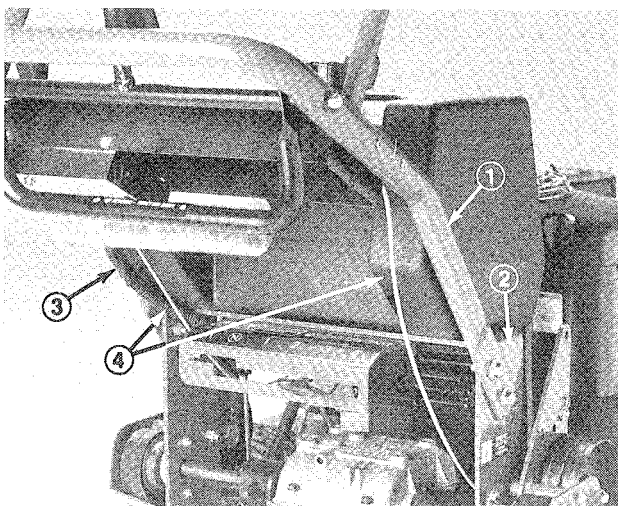

Figure 4
1. Align upper handle mounting holes with desired mounting holes in frame (upper or lower set of holes) and secure each side with (2) 3/8 - 16 x 1" lg. flange capscrews and flange nuts (Fig. 4). Torque capscrews to 23-27 ft.-lbs. Route cables and wire harness inside of frame (Fig. 4)